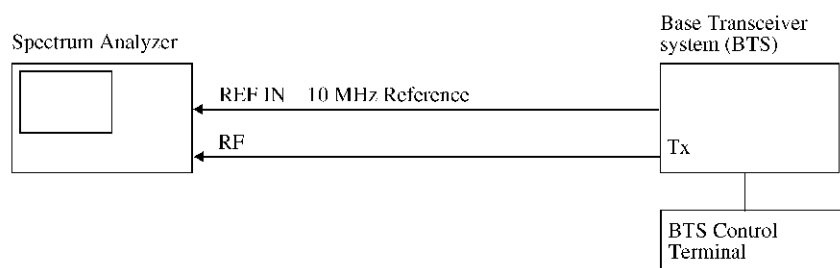

Figure 2-1 Setup for the measurement of the 3GPP signal
1. Connect the unit under test as shown in Figure 2-1.